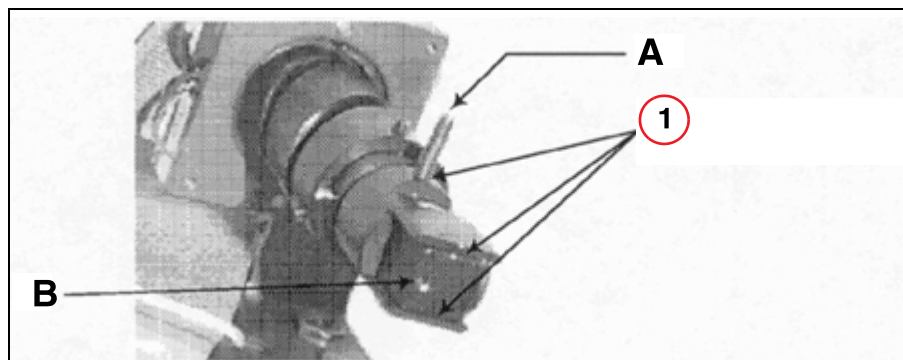

Fig. 19: SDM lacquer
- Vertical direction: Loosen the grub screw (A/Fig. 19 / p. 25) and rotate the optical system.
- Horizontal direction: Insert a socket wrench (1 mm) or similar long metal pin into the hole (B/Fig. 19 / p. 25) and tilt the prism carrier by pressing on it lightly.
- Secure the optical system with safety lacquer on the grub screw and on the prism (1/Fig. 19 / p. 25).